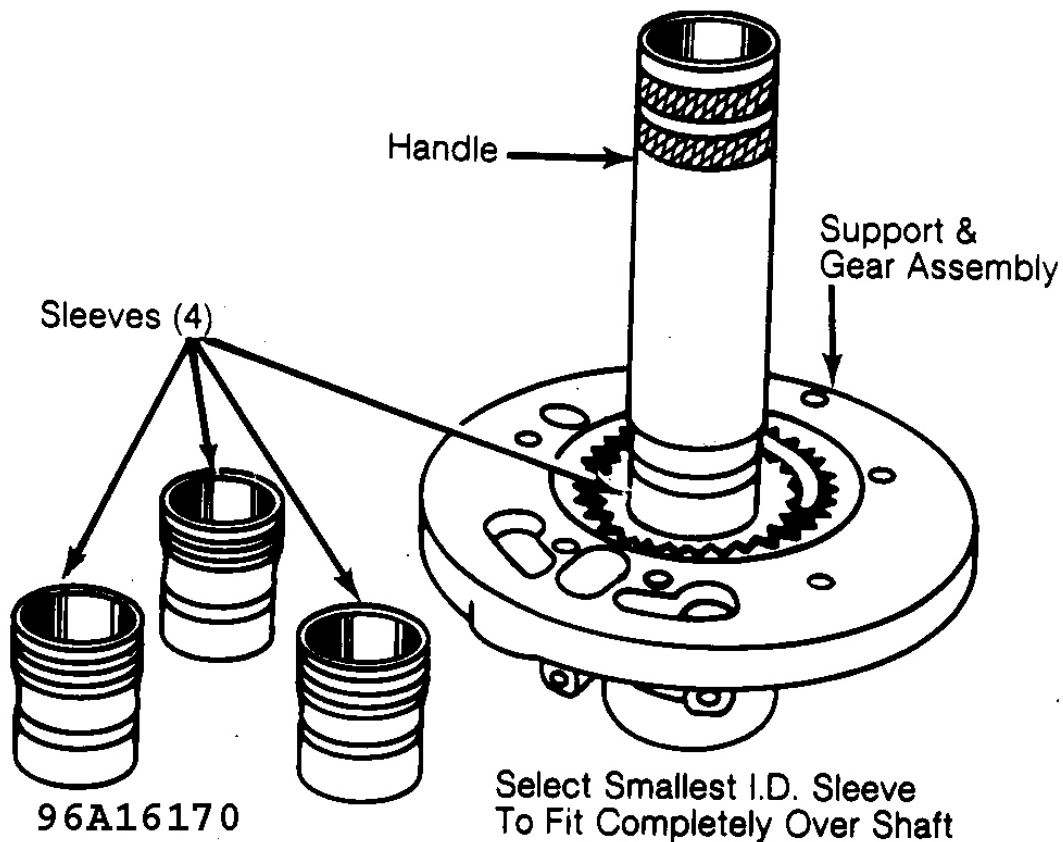

Fig. 39: Front Pump Alignment Set
12. To align front pump, use Pump Alignment Set (T74P-77103-X). Set consists of 4 sleeves and handle. Each sleeve has same O.D. but different I.D. See **Fig. 39**